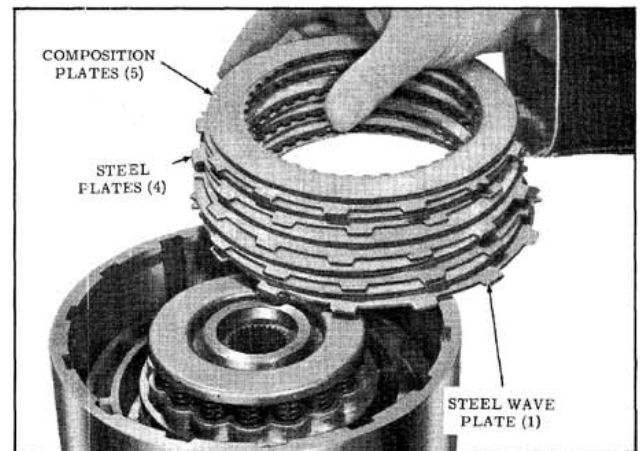

Fig. 6-128 Removing Clutch Plates
4. Remove five composition and five steel clutch plates. (Fig. 6-128)